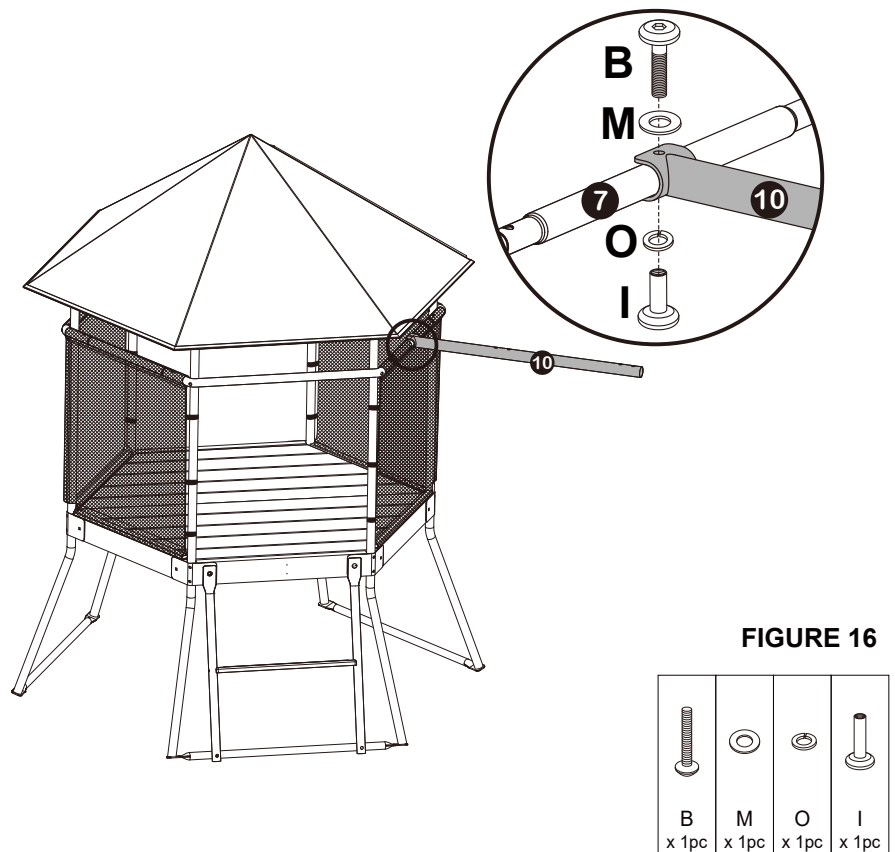

FIGURE 16
- Attach Beam (10) to Straight Connection Tube with Hole (7) as shown in Figure 16.